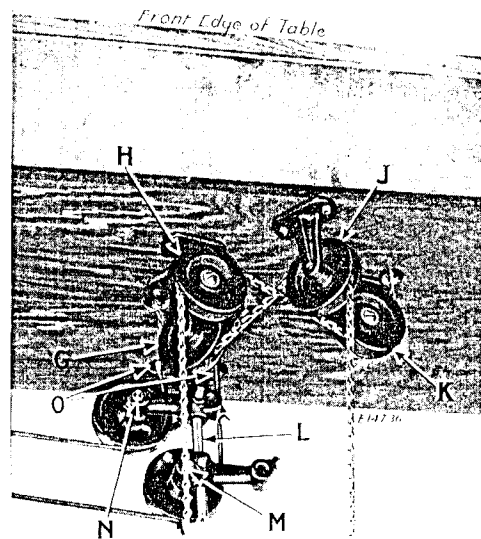

Fig. 3. Underside of Table, Showing Location of Idler and Treadle Chain Guides for Individual SINGER Electric Motor Operation of Class 71- Machines
If the machine is to be driven by a pulley mounted on either a floor or table shaft to the rear of the idler bracket complete (L), the idlers and idler arm should be assembled with the pulleys mounted in the two holes of the arm furtherest from the vertical rod hole, as shown at N, Fig. 3. Should it be necessary to drive the machine from a shaft lying between the rear of the machine and the front of the table, the two pulleys should be assembled with the pulleys mounted in the holes of the arm nearest to the vertical rod hole, as shown at M, Fig. 3.
The foregoing instructions should be followed with the exception that the belt idlers (L, Fig. 3) and arms must be assembled
as illustrated in Fig. 3. The belt should be applied around the pulley of motor, around the idlers, up through the holes (O, Fig. 3) in the table and around the pulley of the machine.